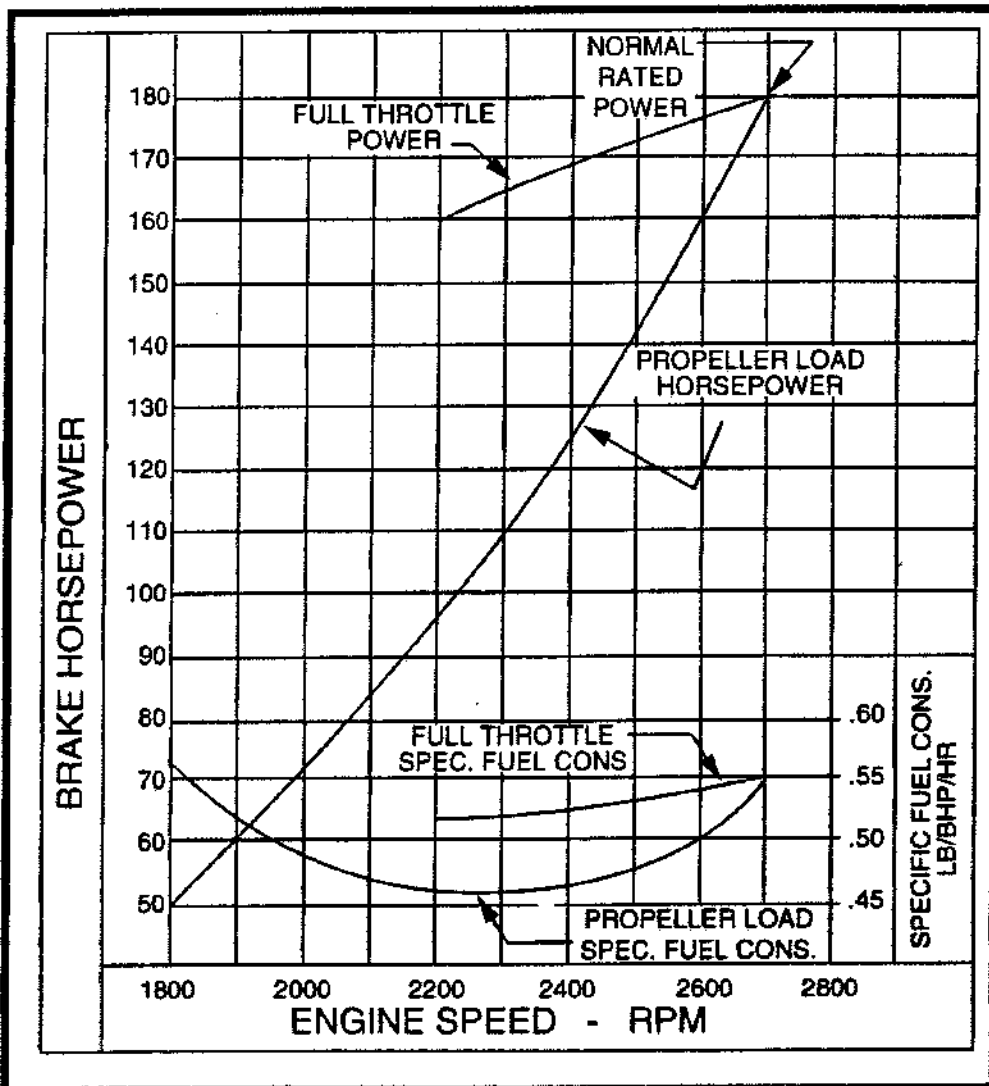

Fig. 3.16. Performance Chart.
52. (Refer to figure 3.16) Determine how much fuel would be required for a 30-minute reserve operating at 2,300 RPM.
53. (Refer to figure 3.16) Determine the fuel consumption with the engine operating at cruise, 2,350 RPM.